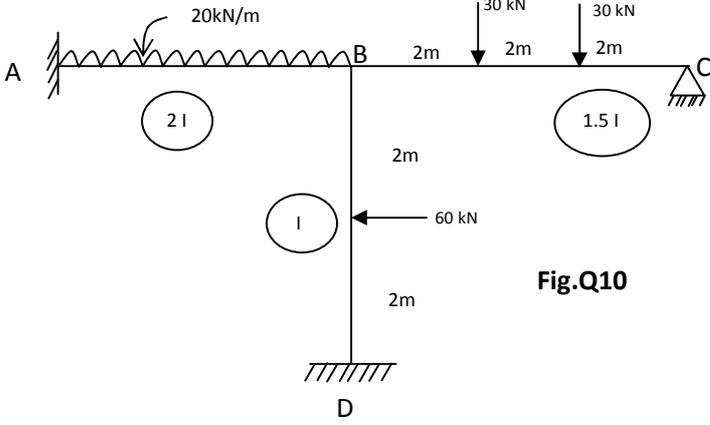

Fig.Q10
10. Analyze the frame shown in Fig. Q10 using stiffness method. Draw BMD